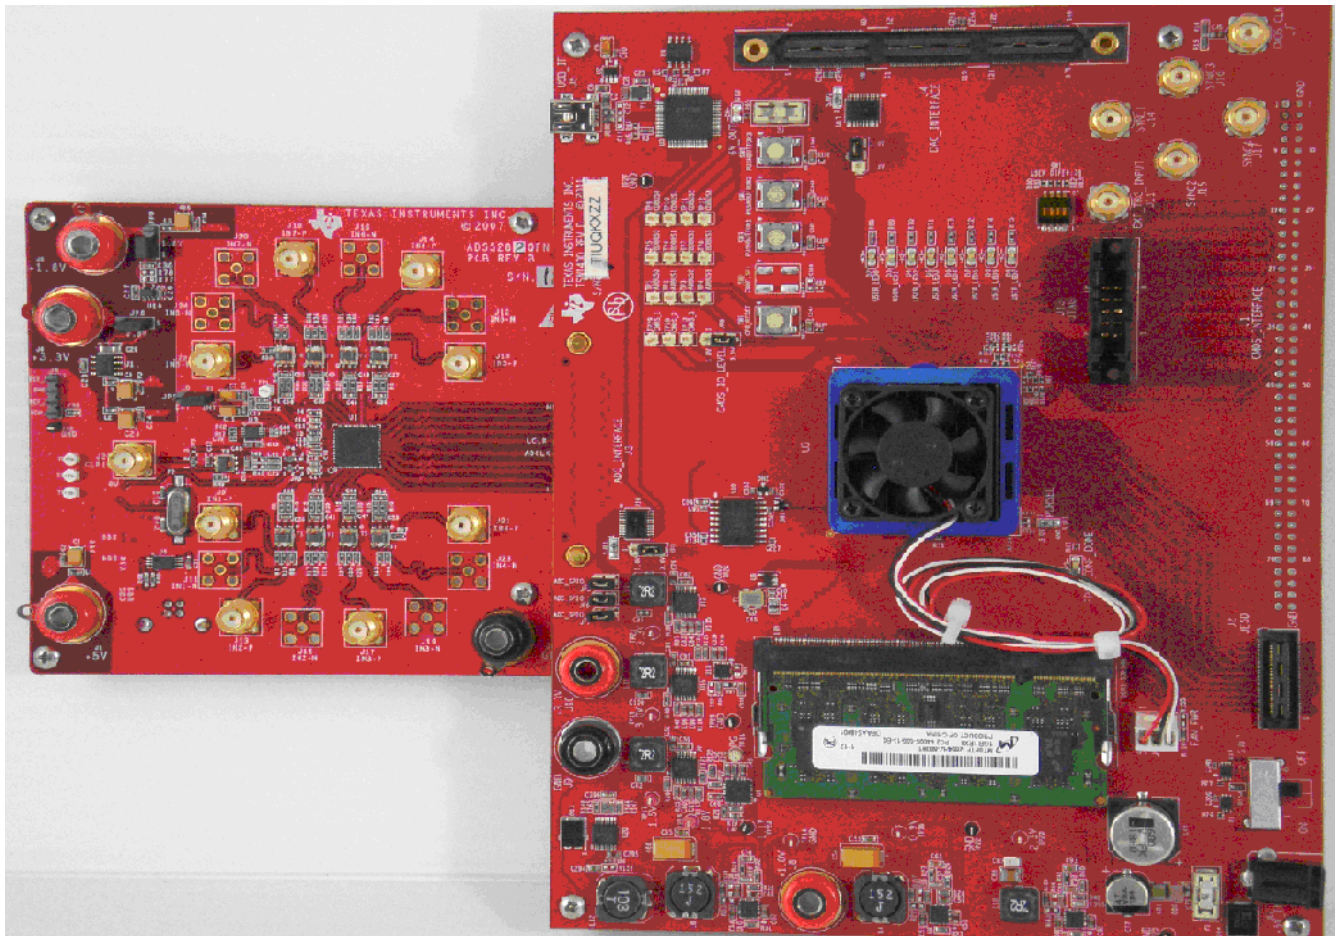

Figure 24. TSW1400EVM interfacing to an ADS5281 EVM
- The TSW1400 EVM connected to an ADS5281 EVM is shown in Figure 24